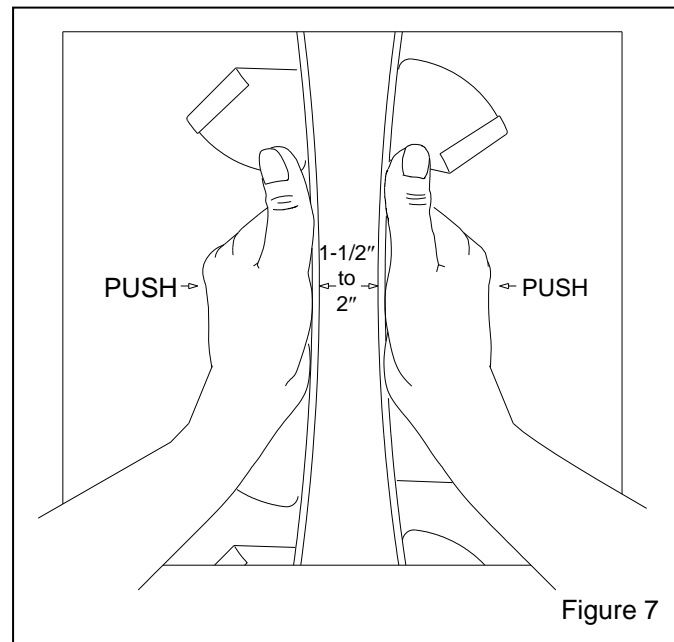

Figure 7
4.1.4 Working through the access opening, use both hands to draw the two sides of the elevator belt together. If the belt is tightened correctly, it cannot be drawn any closer together than between 1-1/2" to 2". See Figure 7.